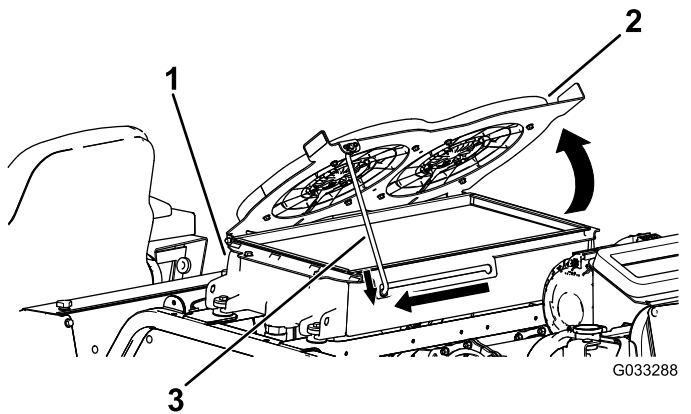

**Figure 117**
4. Pivot the hydraulic-cooling fans downward and lock the prop rod into the notch (Figure 117).